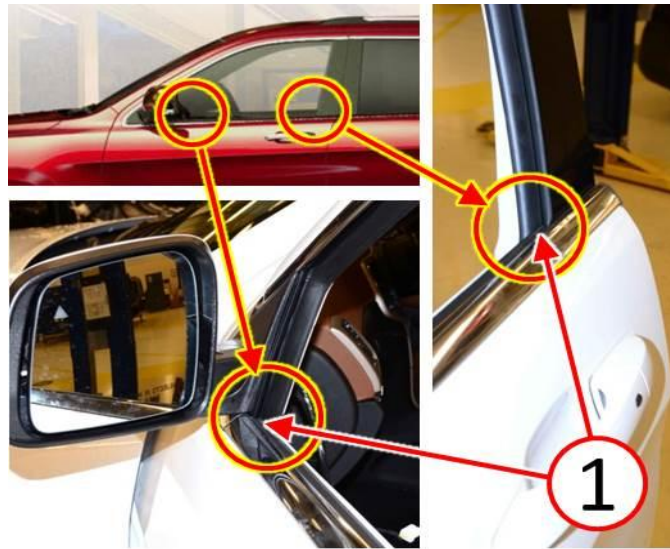

Fig. 4 Do Not Damage Belt Molding Weatherstrip Ends
CAUTION: Be careful to not damage the outer belt molding weatherstrip ends (1) while removing and installing the door glass run seal (Fig. 4).